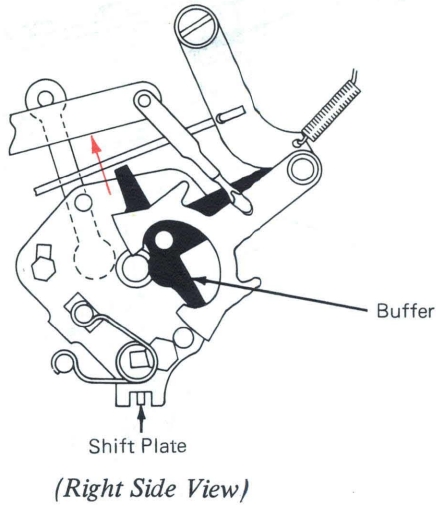

Figure 10 – Buffer Behind Upper Pin
- When shifting to lowercase, the pusher assembly rotates the shift plate which positions the buffer behind the upper pin. After the cam has rotated over the high point, the buffer hits the upper pin of the shift plate to limit the speed and noise of the shift action (Figure 10).